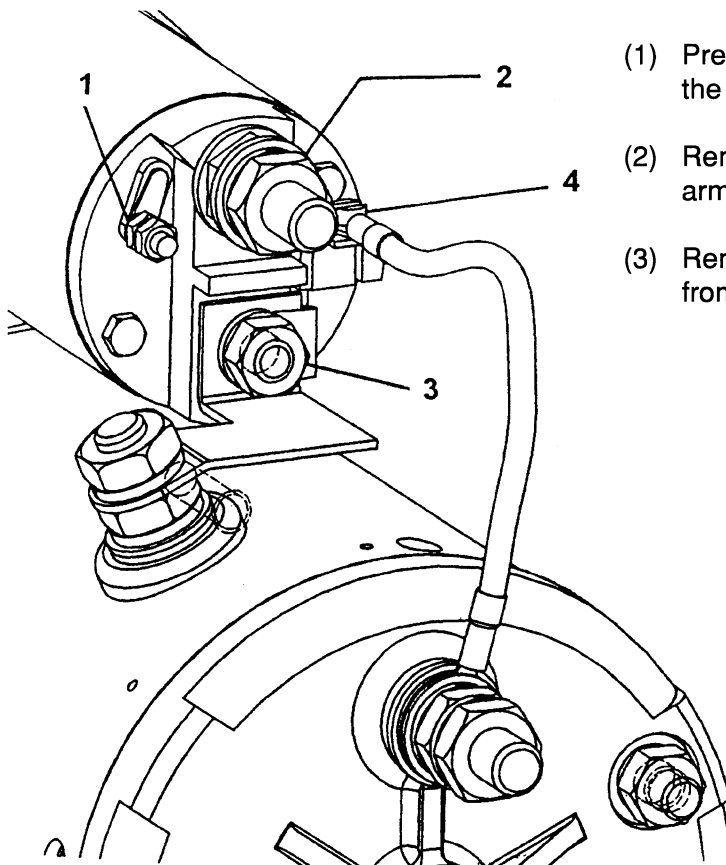

Fig. 1
- (1) Disconnect the jumper lead from the solenoid terminal 4 (See Fig. 1) to the negative terminal, making a note of the position of the washers.
- (2) Disconnect the jumper lead from the solenoid terminal 3 (See Fig. 1) to the field terminal connection.
- (3) Remove the two bolts holding the solenoid to the shift housing, hence removing the solenoid from the motor.
- (4) Remove the four bolts from the nose housing and slide it off the motor.
- (5) Remove the through bolts from the commutator end housing.
- (6) Lift the four brushes away from the commutator and separate the field ring assembly from the shift housing.